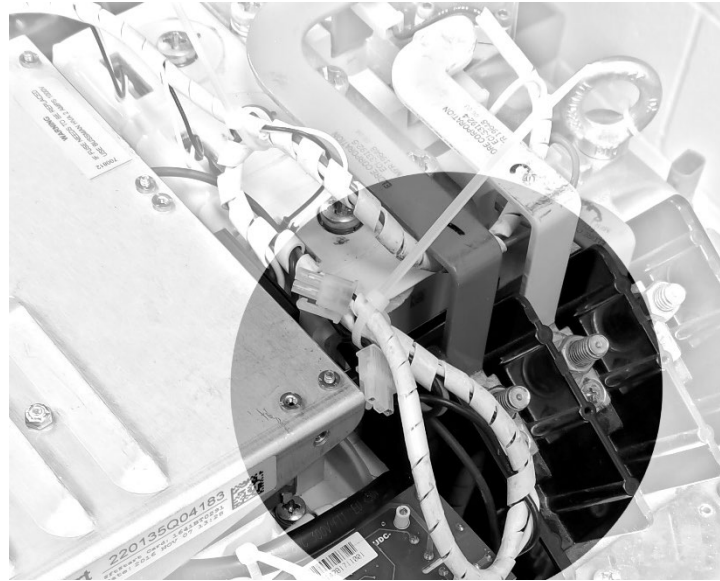

Figure 18 – Trigger Signal Cable Tie
12. Install a cable tie to secure both ends of the 15VAC trigger wire. Refer to Figure 18 (Trigger Signal Cable Tie).